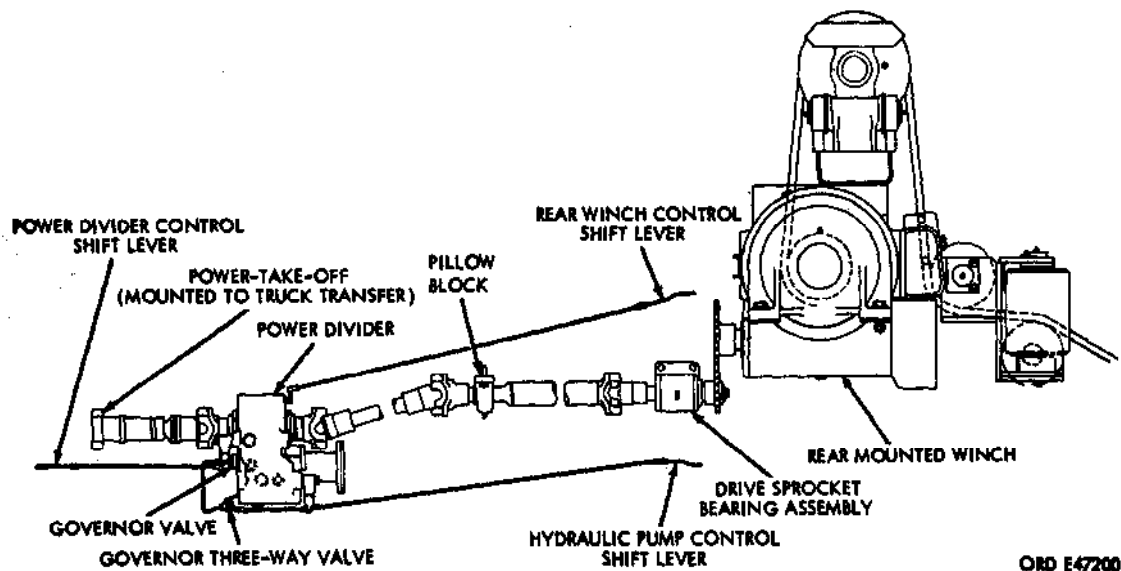

Figure 412. Schematic diagram of power train
t. Power Train. The power train (fig. 412) consists of those units which are mounted beneath the wrecker crane and transmit driving torque to the wrecker crane and rear-mounting winch. Initially, the power is taken from the truck's own transfer by means of a flange-mounted power takeoff. Power is then transmitted to the power divider where it can be used for driving either the crane or rear-mounted winch. Drive shaft and universal joints are used between the various units. A drive sprocket and chain is used in the drive line to the rear-mounted winch. The large drive shaft is supported by a drive sprocket bearing assembly and pillow block.